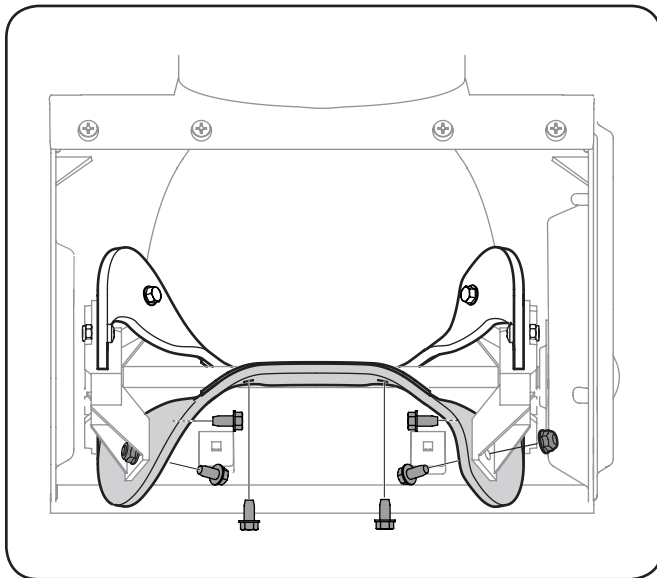

Figure 7-4
1. Remove the existing rubber paddles by unthreading the hex washer screws and nuts that secure them to the auger. See Figure 7-4.